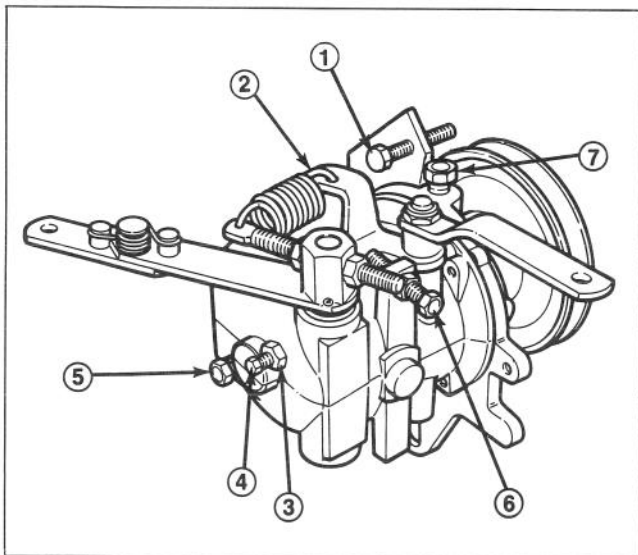

Figure 41
5. Release throttle arm, loosen jam nut on governor low idle stop screw and adjust it to attain 1500 ± 100 rpm. Tighten jam nut (Fig. 41).
6. Slowly move throttle to FAST position until engine speed reaches 3200 ± 100 rpm. Shut off engine. Adjust high idle stop screw until it contacts speed control lever (Fig. 41).
8. Check V-belts from engine to governor pulley and assure they are tight. If belts are loose, the engine will surge. If belts are tensioned properly, loosen jam nut that retains the anti-surge screw (Fig. 41). Rotate screw clockwise 1/8 turn at a time until surging stops. Should governor continue to surge, check the following:
2. Disengage hood latch and open the hood. Remove check plug (Fig. 41). Level of oil must be up to bottom of filler hole. If level of oil is low, remove oil fill